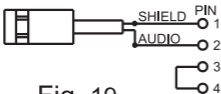

Fig. 19
1. 2-wire electret condenser microphone capsule connection, Fig. 19: